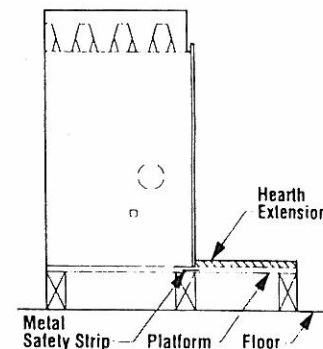

Figure 6
Step 2. Insert the metal safety strips, packaged with the fireplace, beneath the fireplace as illustrated (*Figures 6 and 7*). The safety strips should overlap for continual coverage of the floor.